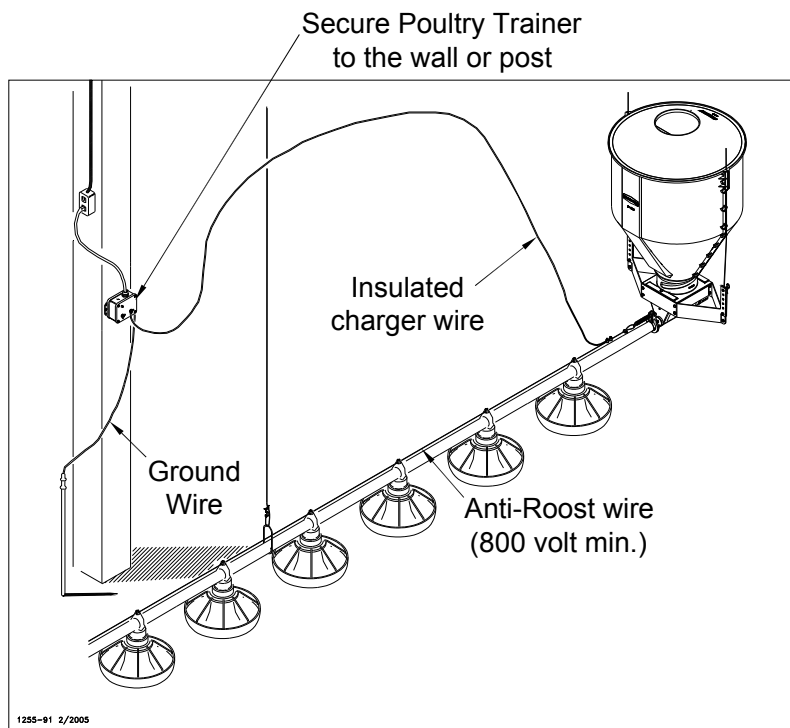

Figure 84. Poultry Trainer Installation
11. Install the Poultry Trainer or Line Charger, as shown in **Figure 84** or **85**.
The Poultry Trainer is used to power all Anti-Roost lines in a house. See **Figure 84**.